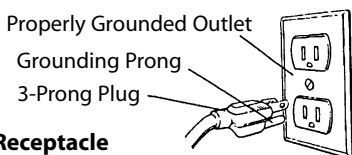

Figure 4 – 3-Prong Receptacle
Refer to Figures 4, 5 and 6.
- This tool is equipped with an approved 3-conductor cord rated at 300V and a 3-prong grounding type plug (See Figure 4) for your protection against shock hazards.
- Grounding plug should be plugged directly into a properly installed and grounded 3-prong grounding-type receptacle, as shown (Figure 4).